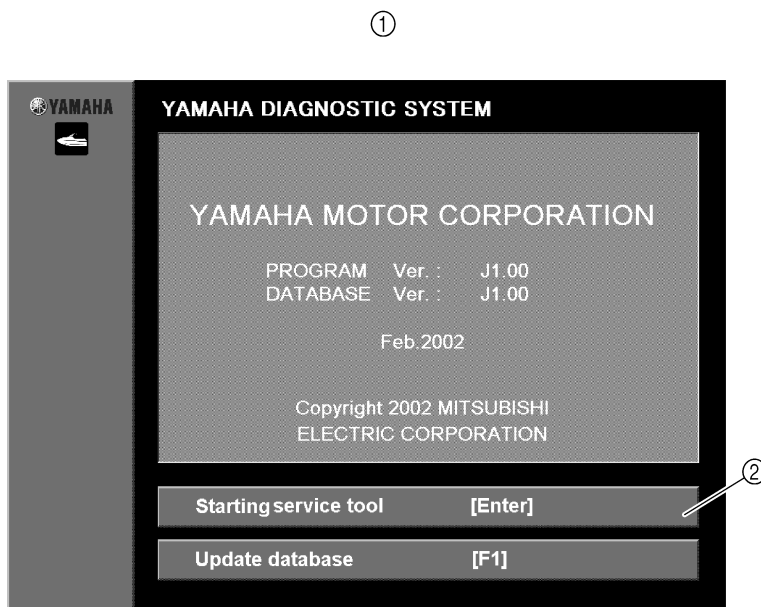

Fig. 21
4. Open the Yamaha Diagnostic System window. (Fig. 20) After about three seconds the display will automatically go to the first menu, or click or press any key to go to the first menu. (See fig. 21.)
(Fig. 21)